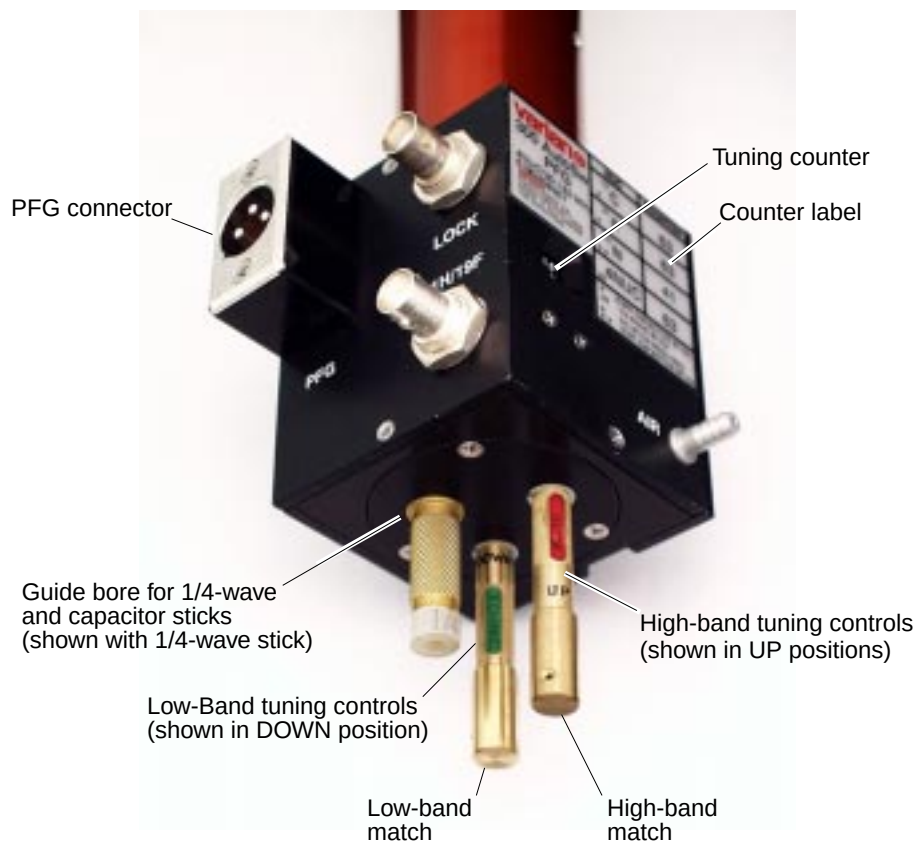

Figure 25. AutoSwitchable PFG Probe Tuning Controls And Connectors
3. For PFG probes only, connect the PFG cable to the PFG connector on the probe base (see Figure 25).
6. For PFG probes only, connect the PFG cable to the PFG connector on the probe base (see Figure 25).
The tuning controls for the AutoSwitchable probe extend from the bottom of the probe base, as shown in Figure 25. The tuning controls of this probe are operated with the coaxial, brass-colored tuning knobs. Both the high-band channel (labeled 1H/19F in red) and the low-band channel (labeled X-CHANNEL in green) are tuned by independent controls that control two resonances for each channel.